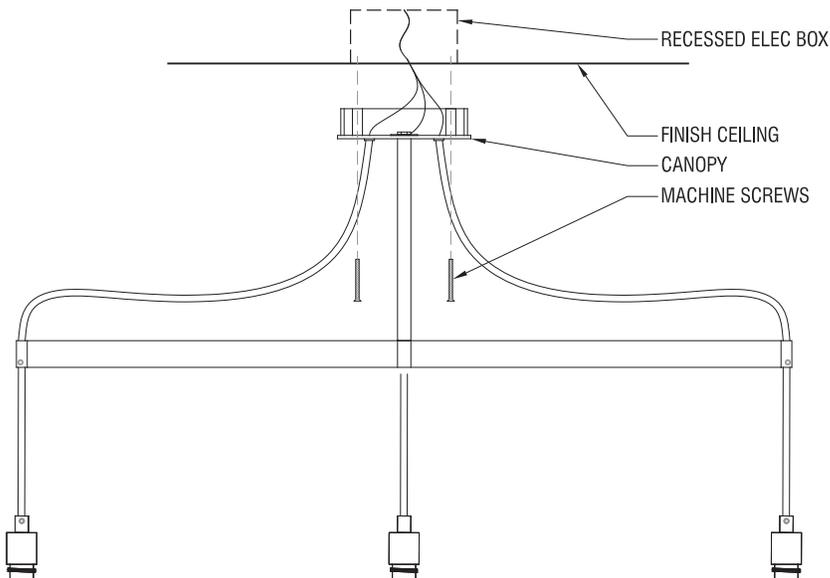

Figure 4. Wire fixture / Install fixture
- 8 Attach canopy to recessed electrical box. This fixture connects directly to a recessed electrical box, and requires a steel electrical box with two 8/32 thread holes at 3 1/2" on-center for installation. Note that the orientation of the canopy should be such that the three holes in the canopy for the exposed fabric-wrapped electrical cords should align with the arms of the 3-arm part below - a universal crossbar (not included) may be required to achieve the desired orientation of the canopy and fixture. Fasten each of the provided 8/32 thread brass machine screws through the countersunk holes of the canopy and into the threaded holes of the electrical box (or crossbar, if using). (figure 4)